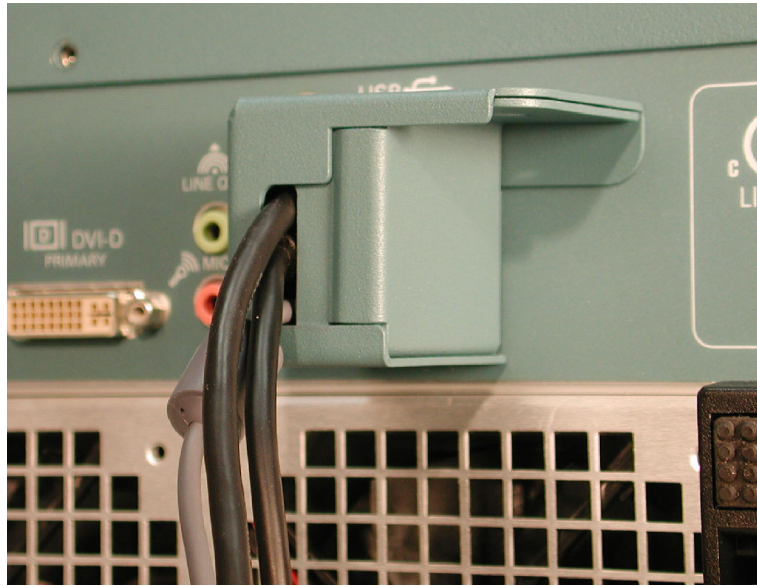

Figure 53: Slide the housing cover into place
4. Slide the lock housing cover into the main lock housing and over the cables so that the padlock holes line up. (See Figure 53.)